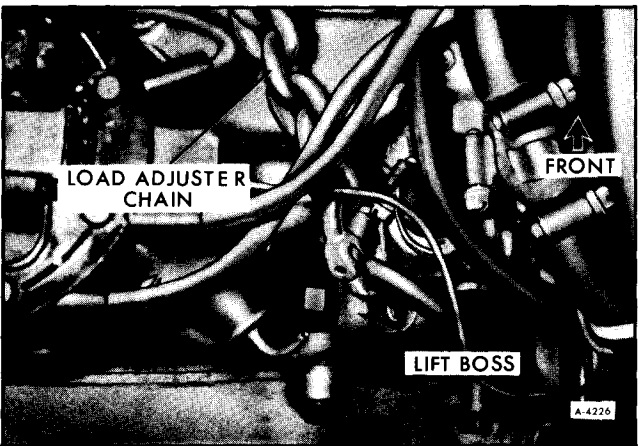

Figure 7—Rear Engine Lift Location
3. Remove bolts "A", "B" and "C" on both sides of the engine/transmission rear support (See figure 7).